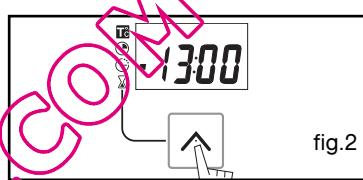

fig.2
Example: end of cooking at 13:00 (fig.2).
- Press the “ \wedge ” button to confirm or wait a few seconds (fig.2).